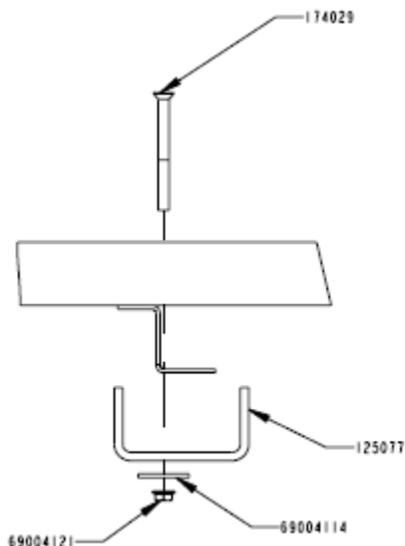

Figure 2
- 7) If Z-section interferes with the washer and nut being tightened up against floor, use bracket (TBB125077) over the Z-section as shown in Figure 2 along with longer bolt (TBB 174029).